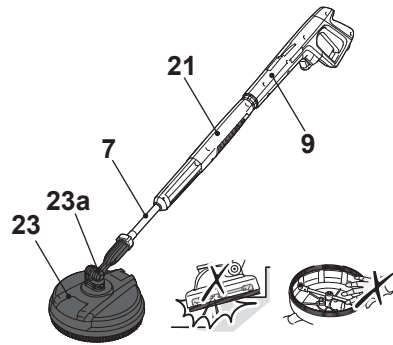

Fig. 12
4. Securely fit the short extension lance (21) by turning the sleeve (21b) clockwise (step 3).
5. Align and insert the tongues (7a) of the extension lance (7) into the grooves of the short extension lance (21) connection port (step 4)
6. Securely fit the extension lance (7) by turning it clockwise to lock it in place (step 5). Ensure the arrow on the short extension lance aligns with the arrow on the extension lance.
7. Attach the patio brush (23) onto the extension lance (7) (Fig.12).